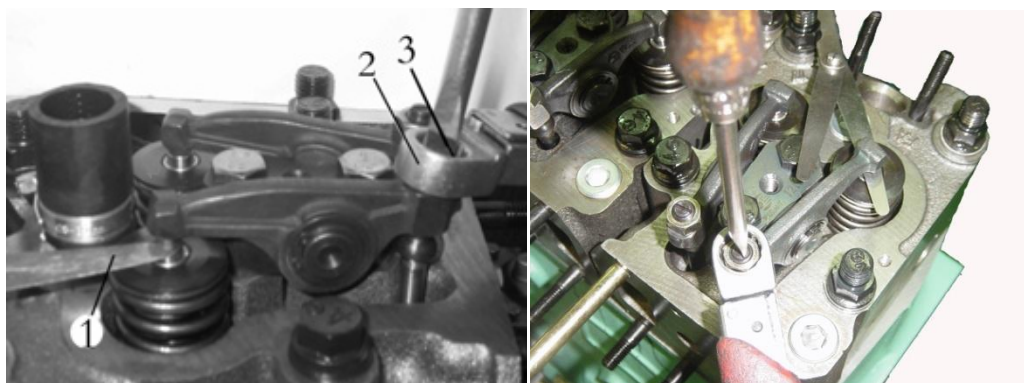

Figure 4-5 Adjustment of valve clearance
3) As is shown in Figure 4-5, use a feeler gauge to check the clearance between upper plane of valve and rocker arm of valve. If the clearance is overlarge or oversmall, it is possible to meet the clearance requirements by adjusting the adjusting bolts on the rocker arm. In cold state,